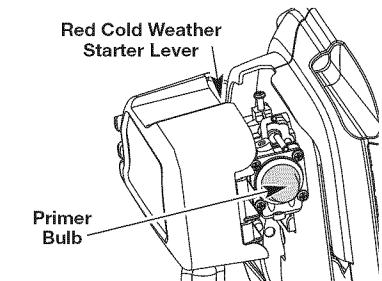
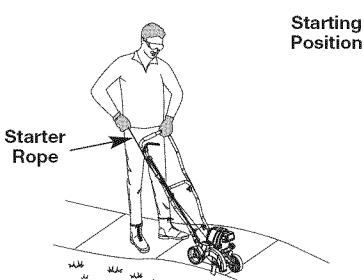

Fig. 11
Fig. 12
**WARNING:** Avoid accidental starting. Make sure to be in the starting position when pulling the starter rope (Fig. 12). To avoid serious injury, the operator and unit must be in a stable position while starting.
**IF COLD...** In cold weather conditions (below 40°F), push the red cold weather start lever (Fig. 11) down to the closed position and continue to step 3. **DO NOT** push this lever down if the temperature is above 40°F.
- Fully press and release the primer bulb 10 times, slowly. Some amount of fuel should be visible in the primer bulb (Fig. 11). If fuel cannot be seen in the bulb, press and release the bulb until fuel is visible.
- Stand in the starting position (Fig. 12).
**IF COLD...** For cold weather conditions (below 40°F), push the red cold weather start lever (Fig. 11) down to the closed position and continue to step 3. **DO NOT** push this lever down if the temperature is above 40°F.
- Fully press and release the primer bulb 10 times, slowly. Some amount of fuel should be visible in the primer bulb (Fig. 11). If fuel can not be seen in the bulb, press and release the bulb until fuel is visible.
- Press and hold the **ON (I)** button of the Plug-in Power Start or Power Bit Start equipped drill in intervals no longer than 2 seconds each until the unit starts.
- Stand in the starting position (Fig. 12). Tip the unit back so the blade does not touch the ground.